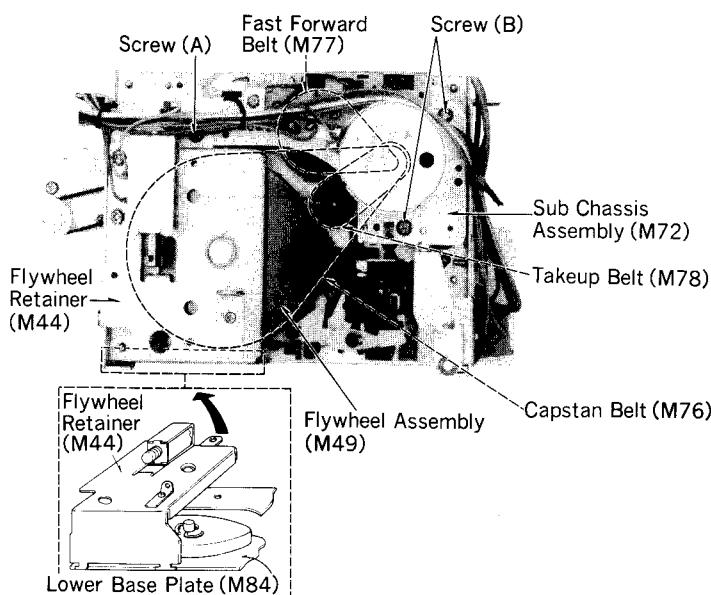
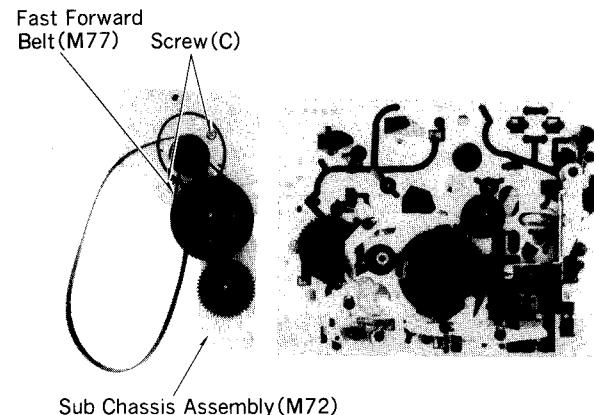

Fig. 10
Fig. 11
- Remove screw (A), and then detach flywheel retainer (M44) by pulling it in the direction of the arrow as in fig. 10.
- After removing screws (B), detach takeup belt (M78) and capstan belt (M76), and then sub chassis assembly (M72) can be removed. (fig. 10) (fig. 11)
- When screws (C) is removed after detaching fast forward belt (M77), motor assembly (M71) can be removed.
5. Attach the screw (A) in the position as shown in fig. 10.